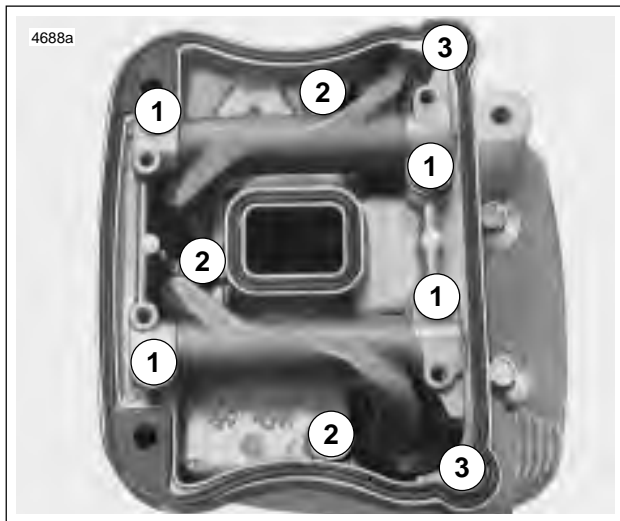

Figure 3-88. Lower Rocker Box Fasteners
9. See Figure 3-88. Install **new** gaskets with the bead facing up. Place lower rocker box assembly (with rocker arms and shafts) into position. Place push rods in rocker arm sockets.
10. See Figure 3-88. Install hardware attaching lower rocker cover to cylinder head in the following order. After loosely installing all fasteners, use a cross pattern on the four large bolts that fasten the lower rocker box to head to tighten and then torque to specifications. This will bleed the tappets. Finish tightening remaining fasteners. Fastener sequences, sizes and torque specifications are listed in Table 3-21.
- Tighten bolts (1) to 18-22 ft-lbs (24-30 Nm).
- Tighten bolts (2) to 135-155 **in-lbs** (15-18 Nm).
- Tighten screws (3) to 135-155 **in-lbs** (15-18 Nm).